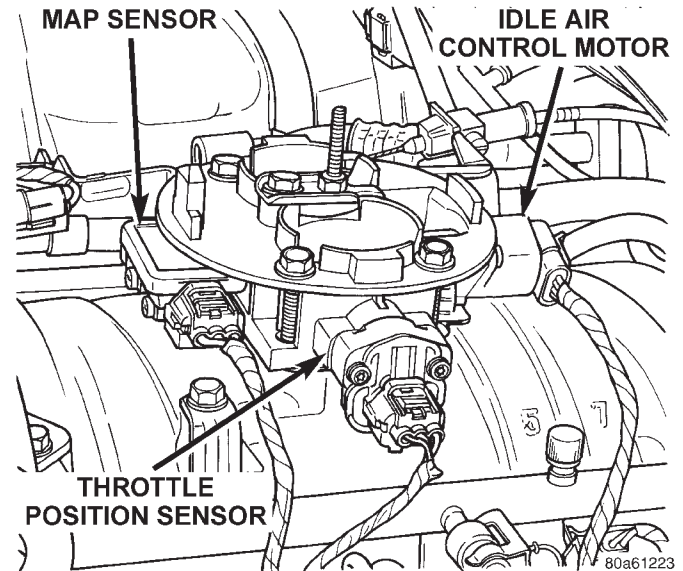
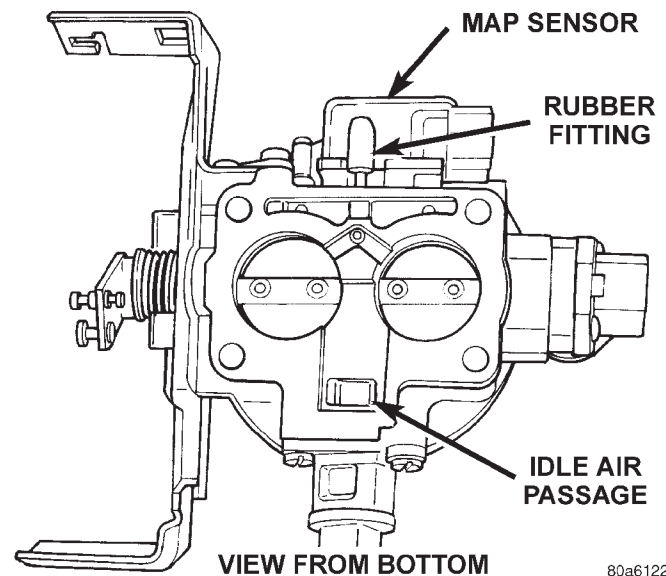

Fig. 28 Sensor and IAC Motor Location—5.2L/5.9Engines
Fig. 29 Rubber L-Shaped Fitting—MAP Sensor-to-Throttle Body
(16) Verify that MAP sensor electrical connector is firmly connected to MAP sensor (Fig. 28). Also verify that rubber L-shaped fitting from MAP sensor to the throttle body is firmly connected (Fig. 29).
(17) Verify that fuel injector wire harness connectors are firmly connected to injectors in the correct
(18) Verify harness connectors are firmly connected to idle air control (IAC) motor, throttle position sensor (TPS) and manifold absolute pressure (MAP) sensor (Fig. 28).